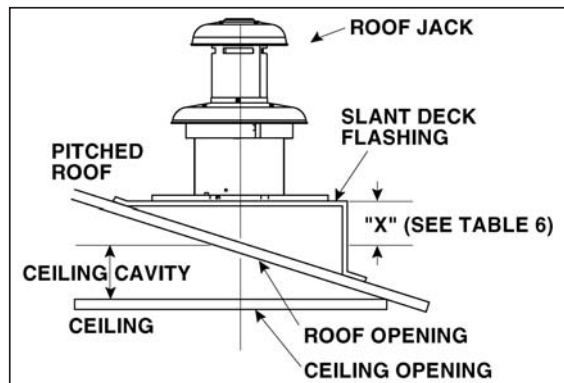

Figure 7. Example of Flat Jack with Flashing
- c. Add dimensions A + B (and X from Table 6 and Figure 7 if slant deck flashing is used). The total length of (A + B + X) must be within the minimum and maximum range of one of the Roof Jacks listed in Table 5.